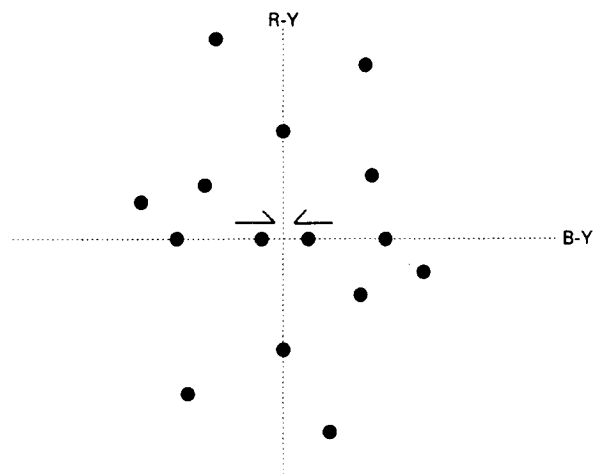

Fig. 5. Vector Pattern of G-card Signal
- (1) Tune receiver into G-card signal.
- (2) Turn AFT on and confirm the AFT operation.
- (3) Press "OPTIMUM" button.
- (4) Set the oscilloscope to the X-Y mode and connect TP46B to the horizontal axis(X) and TP46R to the vertical axis(Y).
- (5) Adjust TRANS DL OUT control L603 so that outward double dots draw together.
- (6) Adjust LEVEL-ADJ control VR601 so that two points on the Xaxis shall be merged. (refer to Fig. 5)